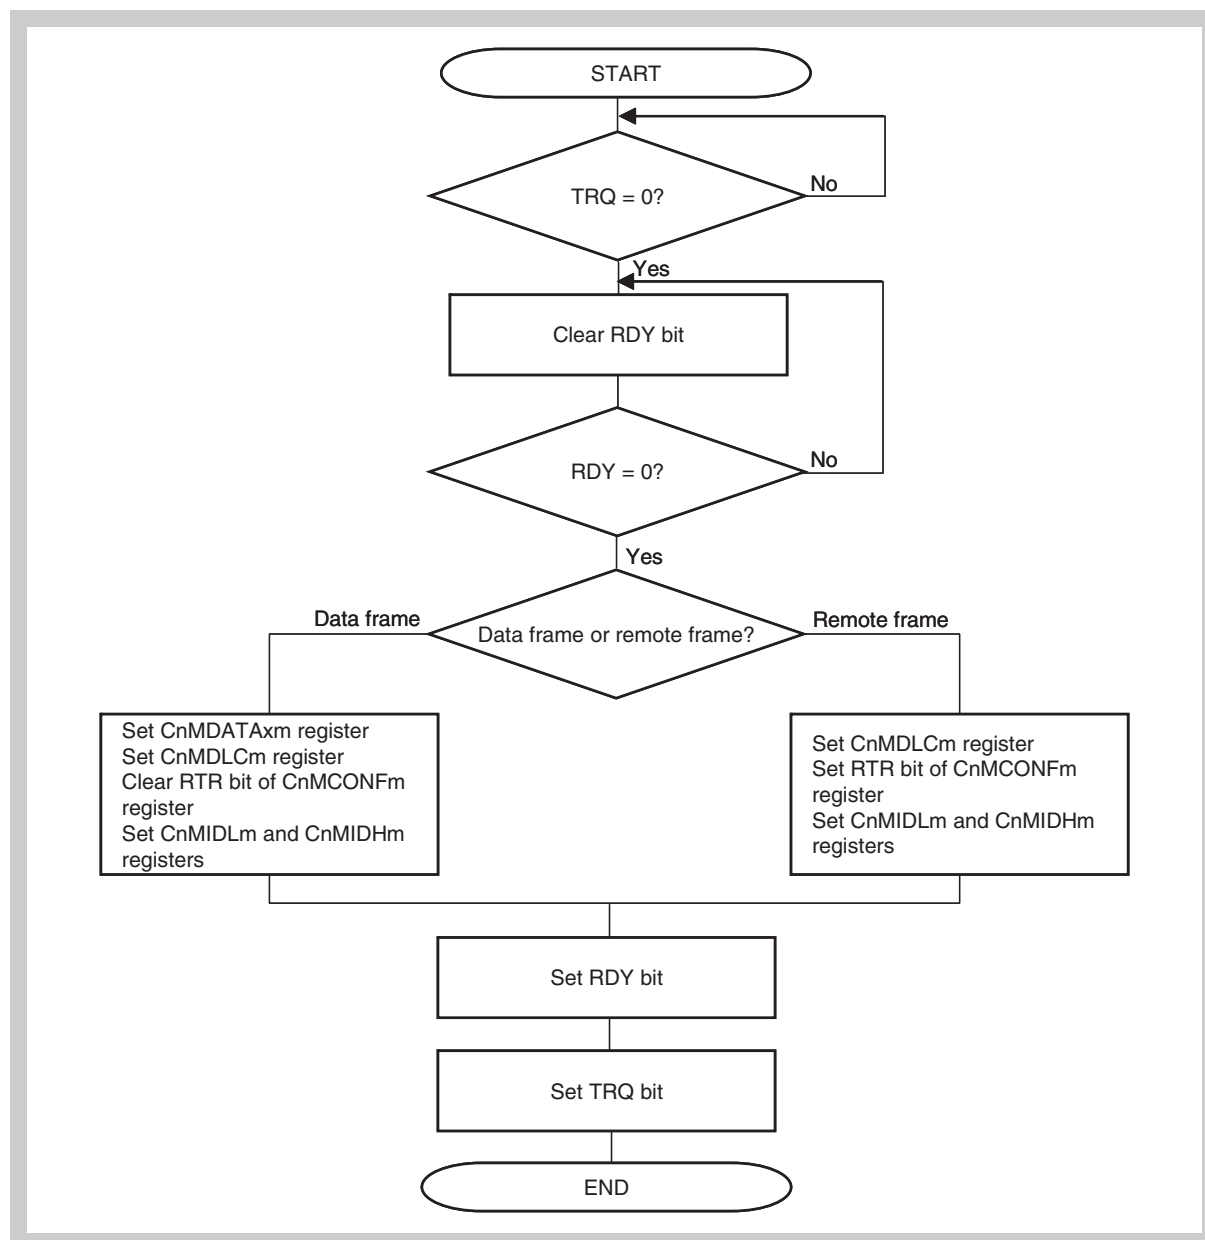

Figure 20-40 Message transmit processing
Figure 20-40 shows the processing for a transmit message buffer (MT[2:0] bits of CnMCONFm register = 000B).
**Note** This processing (normal operation mode with ABT) can only be applied to message buffers 0 to 7. For message buffers other than the ABT message buffers, see *Figure 20-40 on page 796*.